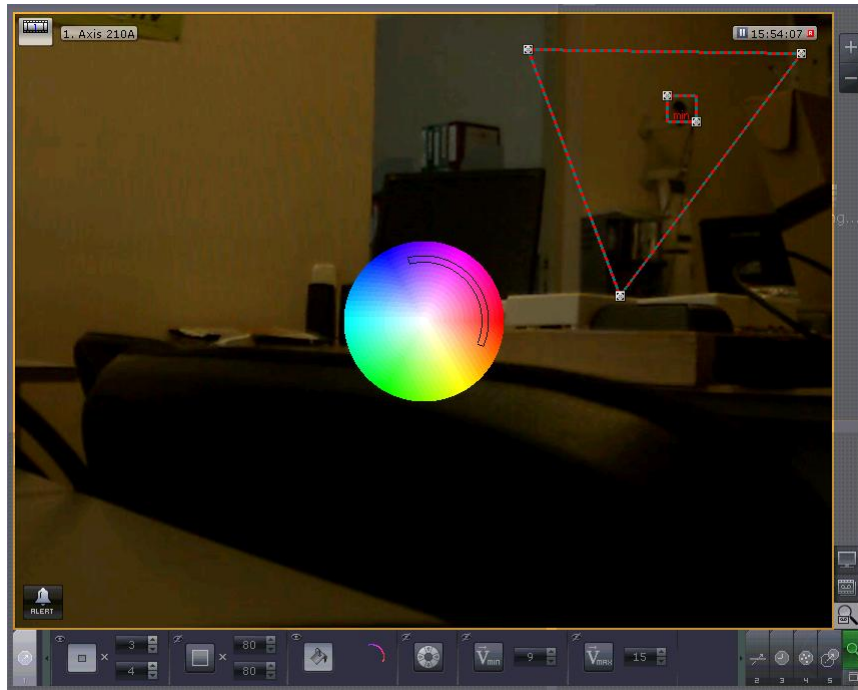

Fig. 7.3—75 Setting the color of a moving object
3. Set the color range on the palette using the black frame. The frame is creating using the Drag & Drop method (click any mouse button, move the mouse, and release the button) (see Fig. 7.3—75).